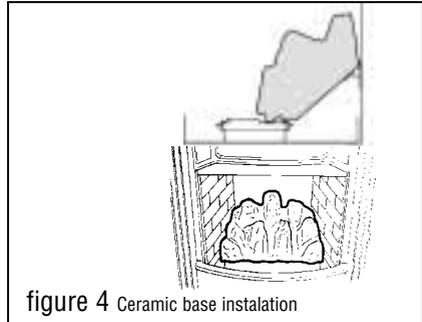

figure 4 Ceramic base installation
- 1 Place the ceramic base coal in the burner compartment. The bottom rear face of the coal should rest on the angled ledge at the back of the burner compartment. The bottom front recessed edge of the coal base should locate against the step in the burner plaques (See figure 4).